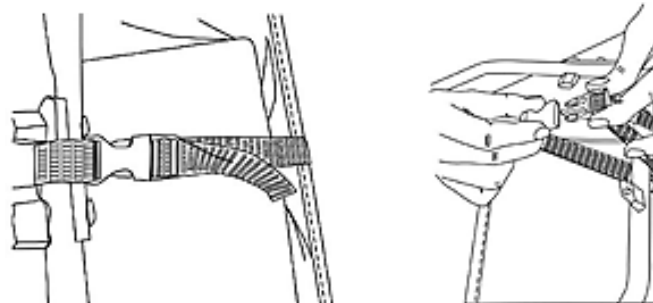

Figure 8
- Step 2: Wrap the Security Belt, located on the back of the Grass catcher, around the centre joint of the Lower handles and lock buckle into place, as shown in Figure 8.
Note the length of the Security Belt can be adjusted by modifying the loop length. (See Figure 8)